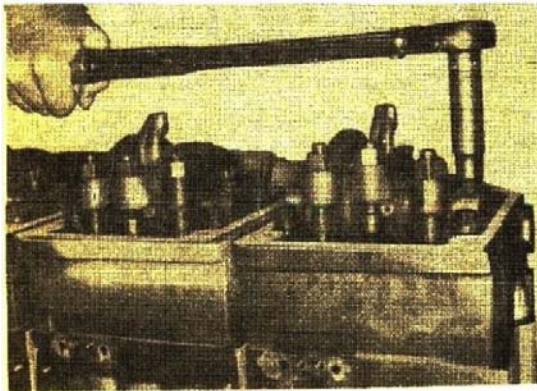

Fig. 14-62, Tighten the rocker lever assembly capscrews
1. Loosen the locknuts and back off the rocker lever adjusting screws two (2) or three (3) turns, if not previously done.
4. Install the capscrews and washers. The longer capscrew goes through the rear of the housing into the cylinder head. Tighten the capscrews alternately and evenly to 60 to 70 ft-lbs (81 to 95 Nm) torque. Fig. 14-62.